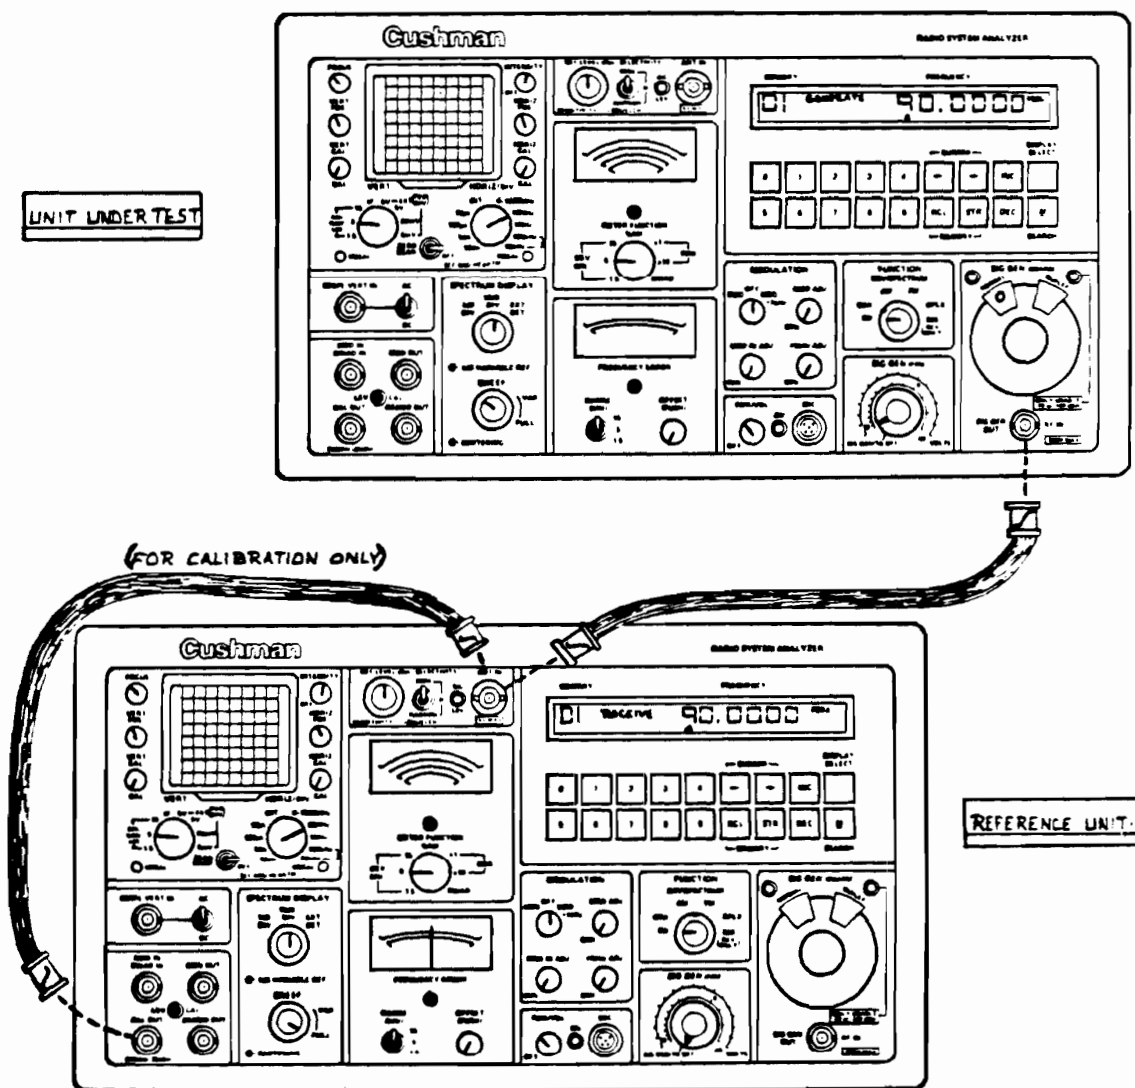

Figure 5-1. Signal Generator Verification Test Set-up
- * Calibrate the testing CE-6000 by attaching a cable from the CAL OUT connector to ANT IN. Enter 200.0000 MHz into the Frequency Entry Display using the 0 - 9 number keys (refer to paragraph 4.04.1). Set the testing CE-6000 SENSITIVITY control to -20 dBm, and SQUELCH to open. The CAL OUT signal should be seen on the CRT as a signal rising from the CRT baseline to the 0 dBm reference line. Adjust the LEV CAL control if necessary. Now, connect the cable from the reference CE-6000 ANT IN connector to SIG GEN OUT/RF IN of the CE-6000 under test. Refer to Figure 5-1.